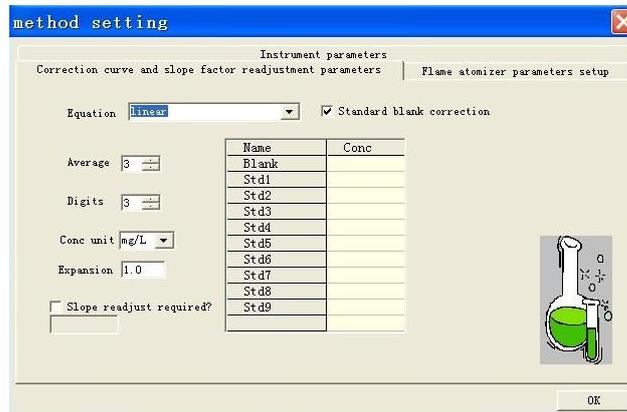

Figure 4-39
8. The concentration of standard samples must be entered in the table on the right for other test methods except direct reading of absorbance. The concentration of standard samples must be entered in the table on the right for other test methods except direct reading of absorbance (The concentration of 9 standard samples can be entered in maximum).The table for linear standard addition method and curve standard addition method is as shown in Figure 4-39 (The concentration of 8 standard samples can be entered in maximum).